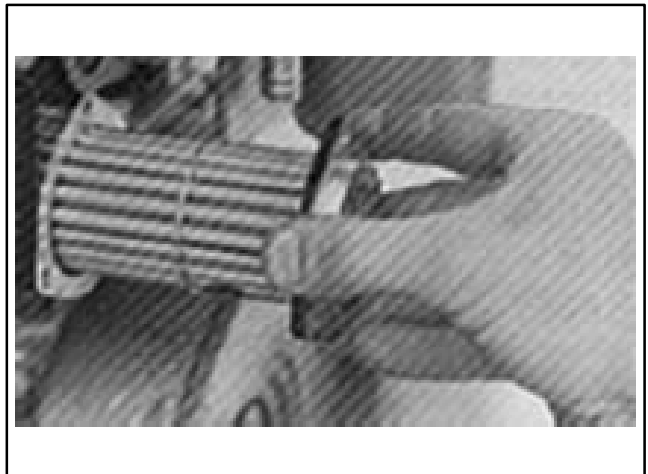

Figure 6-8 Heat Exchanger Tube
10. Remove the heat exchanger tube. See Figure 6-8.